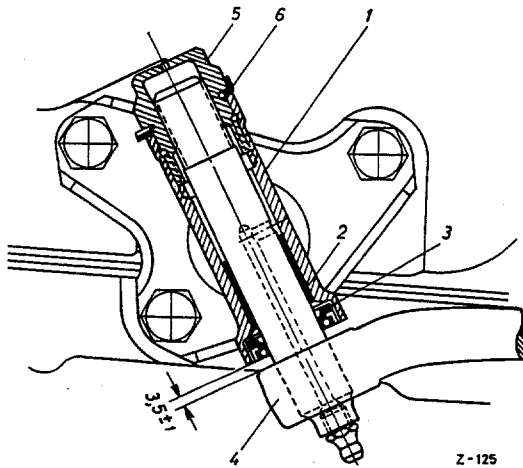

Fig. L 11/1
2. Unscrew the three hexagon screws and lock washers from the pivot bearing and take the pivot bearing with the steering relay arm off the front axle support (Fig. L 11/1).
3. Tap up the locking plate (6) of the cover plate (5) and screw out the cover plate.
4. Then pull the steering relay arm (4) out of the pivot bearing (1).
9. Insert the steering relay arm (4) in the pivot bearing (1) and screw on the cover plate (5) (use a new locking plate), so that in the straight-ahead position a distance of  $3.5 \pm 1$  mm remains between the steering relay arm and the pivot bearing (Fig. L 11/1).
11. Once again check the height adjustment of the steering relay arm. When the adjustment is correct, tighten up the cover plate (5) and tap over the locking plate (6) (see Fig. L 11/1).